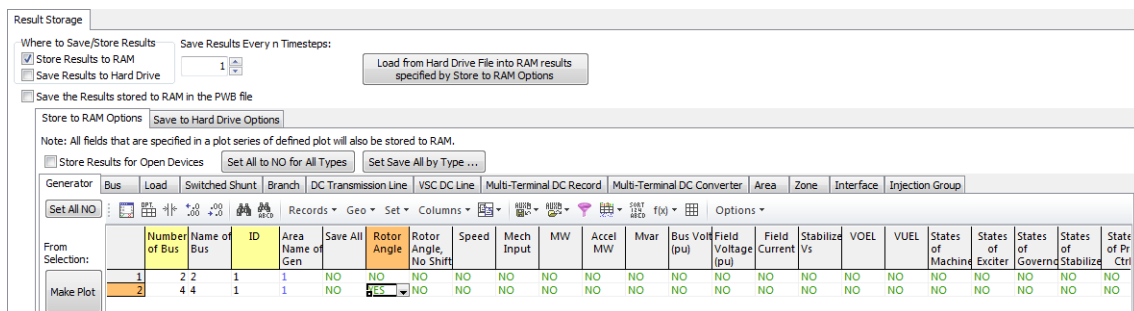

Figure 13: The transient stability analysis tool window – Saving results to RAM
- In *Result Storage*: check *Store results to RAM* to save simulation data. In *Store to RAM Options*, in the *Generator* tab, set the *Rotor Angle* cell of the studies generator to *YES* (Fig. 13).